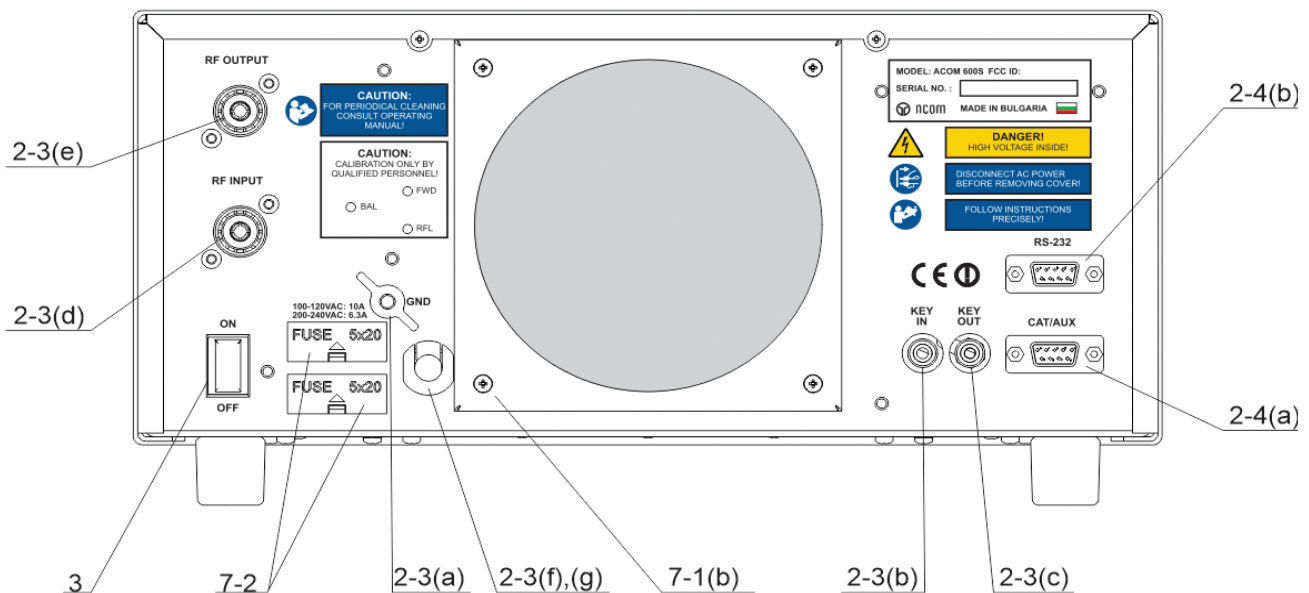

Fig. 2-1 Rear panel connections
The linear amplifier ACOM 600S is a device. Class I of protection against electric shock, i.e. the third grounding lead of its mains cord (colored yellow with two green stripes) and the grounding stud on the rear panel, marked GND (Fig. 2-1), must be connected to the grounding system of the shack for safe operation.
- a) GND stud - external grounding connection of the amplifier. After having made strictly all check-ups described above, first connect the grounding stud of the amplifier (located on the rear panel and marked GND – Fig. 2-1) to the grounding system of the shack.
Connect a shielded cable from the respective control output of your transceiver, providing “ground on transmit” (PTT), to the KEY-IN input on the amplifier rear panel (RCA PHONO jack socket – Fig. 2-1). Use a standard “RCA PHONO” jack plug for connection to the amplifier.
If your amplifier has only one mounted mains fuse (Fig. 2-1 / S. 7-2), it is suitable **ONLY** for power mains networks of the type 0-220/240VAC, which are standard in the EU.
For control of the amplifier through the CAT/AUX interface you need a special cable between the transceiver and CAT/AUX connector (type HD-15) on the rear panel of the amplifier – Fig. 2-1. Such a cable can be supplied as an option along with the amplifier or you can buy it from your dealer additionally, but you can assemble it yourself as well, using information from table 2-1 and your transceiver's manual.
After having mounted and connected the amplifier according to the instructions in Section 2 INSTALLATION and have followed all requirements, check whether mains switch on the rear panel is in turned-off position – in Fig. 2-1 the rocker of the POWER ON switch must be protruding from the side of the "ON" inscription. Afterwards insert the mains plug of the amplifier into the mains outlet prepared for it. For now the amplifier remains turned off.
Now you can put the mains switch on the rear panel in a turned-on position, pushing its rocker so that it sinks from the side of the "ON" inscription (Fig. 2-1). This will activate only the low-energy (waiting) mode of the power supply and will illuminate the red LED above button ON/OFF on the front panel, while the main power supply is still inactive and the display is dark.
- b) LED indicator above the ON/OFF button. The red LED indicator glowing above the ON/OFF button at a dark display shows that mains voltage is fed from the plug, the POWER ON switch on the rear panel (Fig 2-1) is in a turned-on position, but the power supply is in its low-energy (waiting) mode (S. 3-1). In this mode activation of the main power supply is expected to start operation with the amplifier.